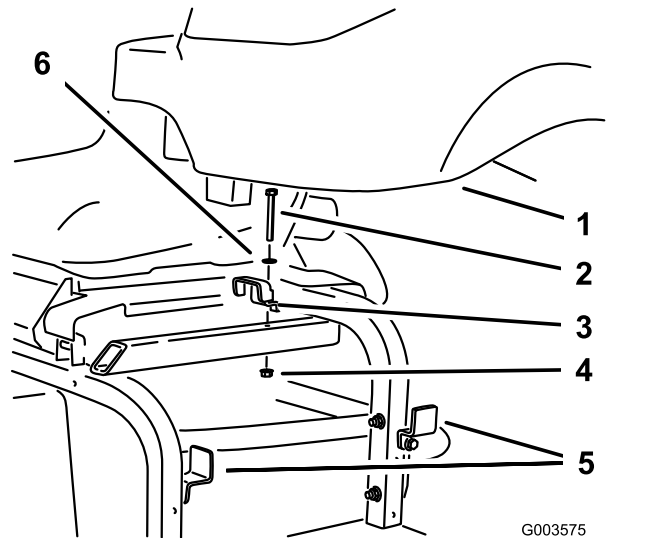

Figure 8
9. Remove the top hydraulic tank bracket from the machine frame and loosen the 2 brackets on the side of the frame (Figure 8). Remove the tank and retain the hardware.